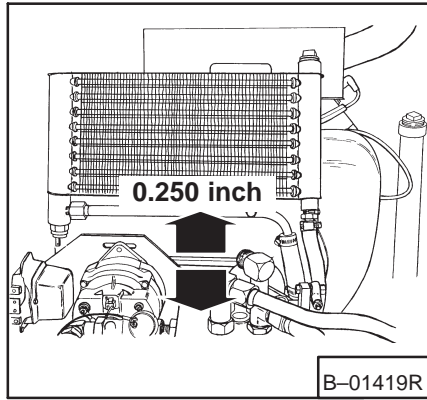
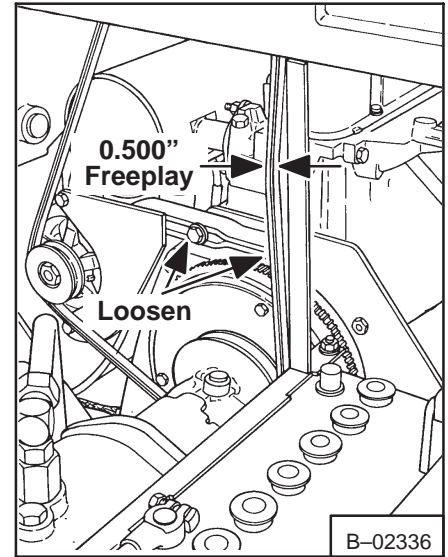

Fig. 1-24 Checking Belt Tension (720)
Fig. 1-25 Checking Belt Tension (722)
3. Check alternator belt tension. Make adjustment for belt movement with 5 lbs. (2,27 kg) force (Fig. 1-24, Fig. 1-25 & Fig. 1-26) as shown.